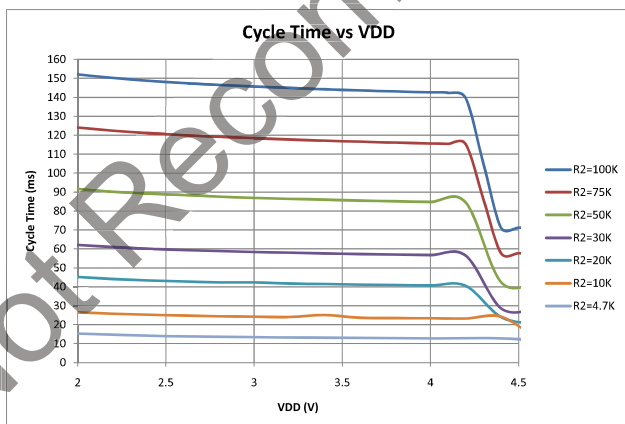

Figure 6. Cycle Period vs. V_{DD}
Notes: <ol style="list-style-type: none"> 1. Max column also applies to $V_{DD} > 3.6\text{ V}$. See Figure 6. 2. When operating at $V_{DD} = 2.0\text{ V}$, the typical TXO current is 250 mA.
- Updated Figure 1 and Figure 6.